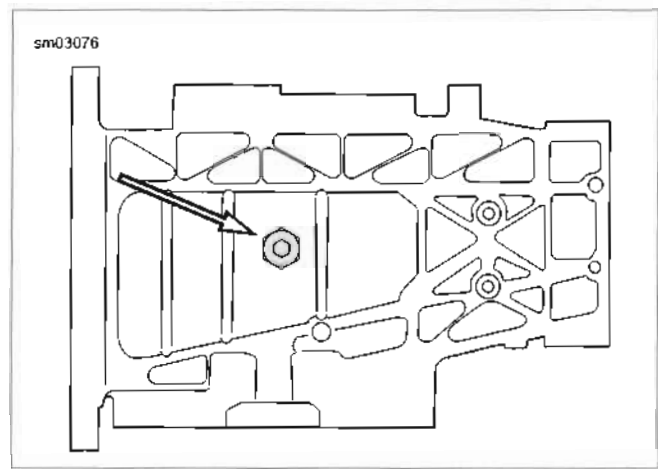

Figure 1-15. Transmission Drain Plug (Bottom View)
2. See Figure 1-15. Remove transmission drain plug. Drain primary chaincase.